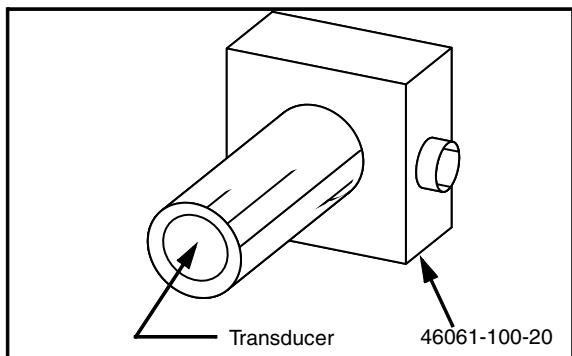

Figure 64. Cleaning sonic sensor
- 3) Check transducer daily for material buildup. The transducer can be cleaned with Simple Green cleaning fluid. Place cleaning fluid on a clean rag and rub transducer gently to remove any material. Wipe transducer clean and dry. (Figure 64)